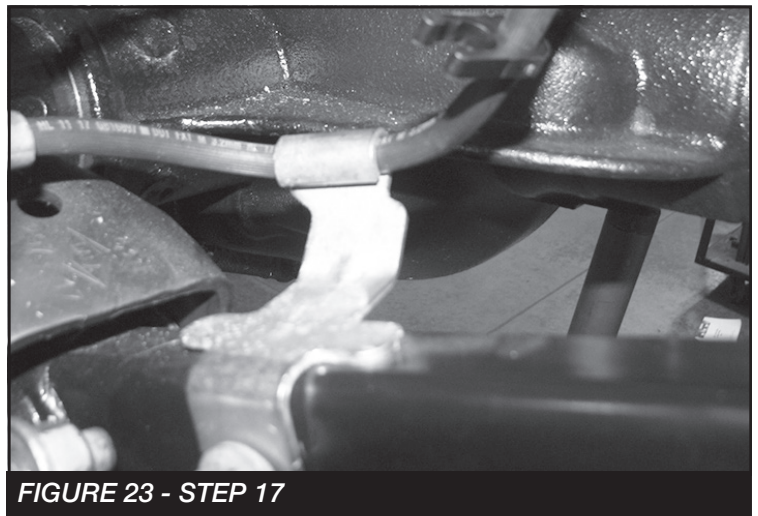

FIGURE 23 - STEP 17
17. Reconnect all brake line brackets with the factory hardware and torque 29 ft-lbs. **NOTE:** Bend the lower link arm brake line bracket upward an inch to give the line some relief at full extension. **SEE FIGURE 23**